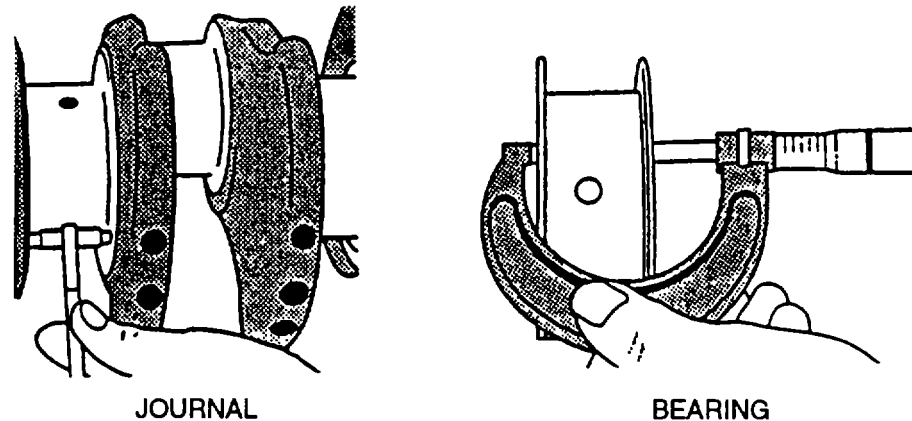

FIGURE 3-139. Measuring Main Thrust Journal and Thrust Bearing Width
- (5) Use crankshaft journal OD measurements to determine if journal is out-of-round or tapered. Journal out-of-roundness wear limit is 0.003 inch (0.08 mm). Journal taper-per-inch of journal length wear limit is 0.0001 inch (0.025 mm)
- (6) If journals are tapered, out-of-round, scored, or damaged, crankshaft should be ground. Refer to paragraph 3-43.3. Proper undersize bearings should be installed after grinding.
- e. Measure main thrust journal width and thrust bearing width, refer to FIGURE 3-139, as follows:
- (1) Measure width of main thrust journal with an inside micrometer.
- (2) New main thrust journal width is 1.531 to 1.535 inches (38.90 to 39.00 mm).
- (3) If width is not within specification, recondition crankshaft and install an oversize thrust washer set. If width is correct, measure main thrust bearing width.
- (4) Measure width of thrust bearing using an outside micrometer.